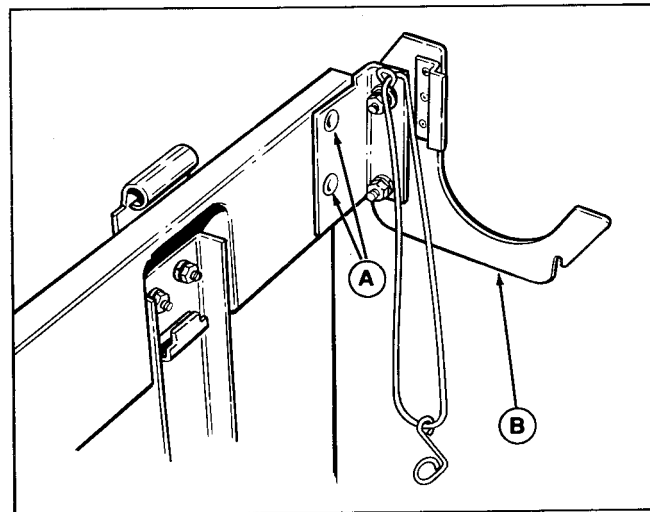

Figure 29.
4. Connect the elbow bracket (B, figure 29) to right-hand rear side of support plate by inserting 5/16-18 x 7/8" carriage bolts (A) from rear and then installing 5/16" lockwashers and nuts.